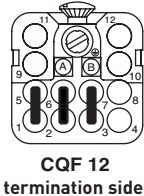

Figure 1
1. Cut and strip the wires as shown in **Figure 1**.